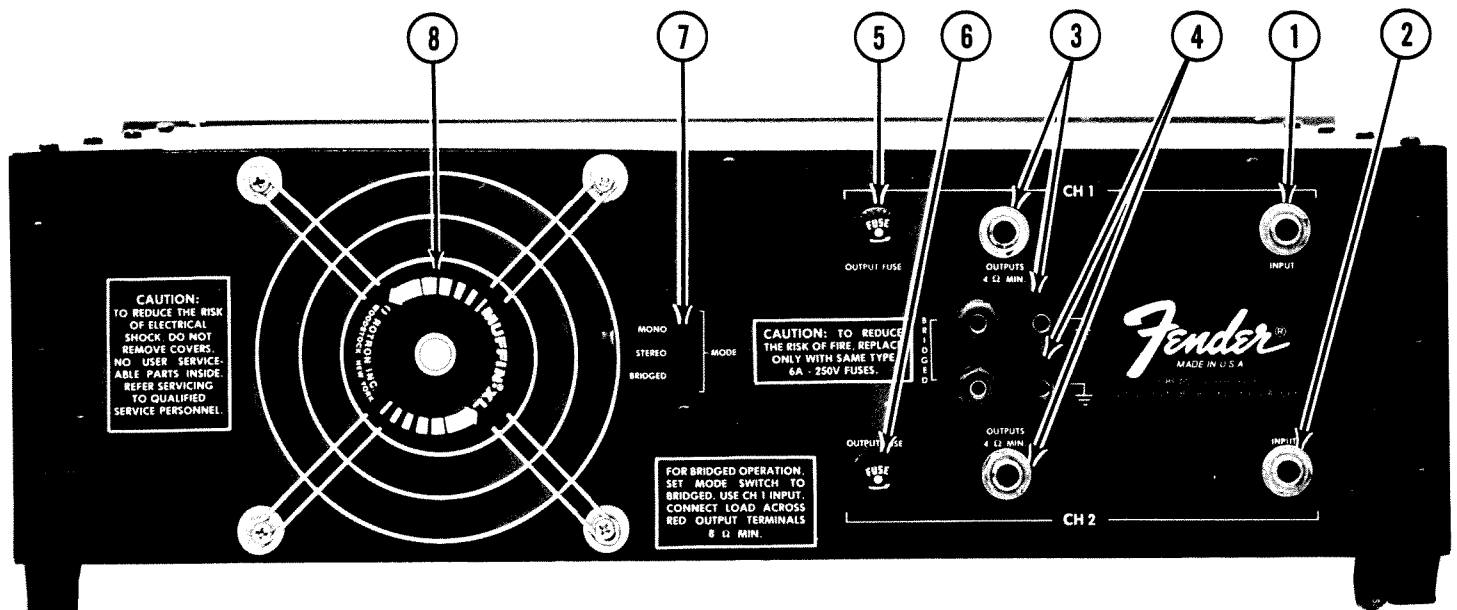

FIGURE 2 — Rear Panel
#### CHANNEL 1 INPUT (Fig. 2 – Item 1)
#### CHANNEL 2 INPUT (Fig. 2 – Item 2)
#### CHANNEL 1 OUTPUT (Fig. 2 – Item 3)
#### CHANNEL 2 OUTPUT (Fig. 2 - Item 4)
**CHANNEL 1 OUTPUT FUSE** (Fig. 2 – Item 5)
**CHANNEL 2 OUTPUT FUSE** (Fig. 2 – Item 6)
**MODE SWITCH** (Fig. 2 – Item 7)
**FAN** (Fig. 2 – Item 8)